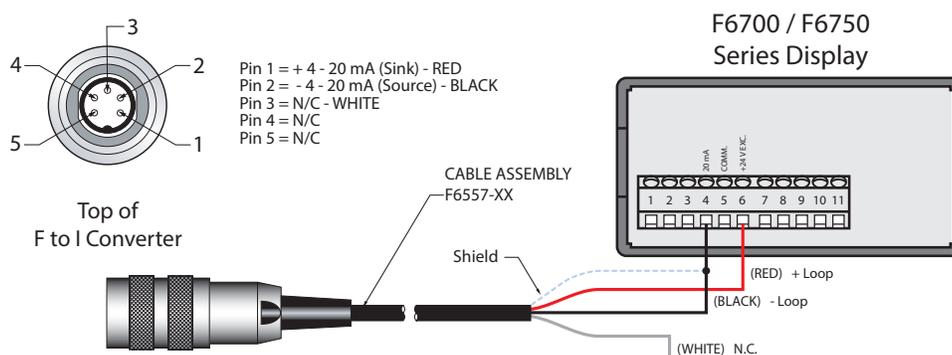

Figure 3: Flo-tech IFC flow sensor wiring
- Connect the RED wire of the F6557 cable to terminal 6 (+24 V EXC) on the F6700 series display. See Figure 3.